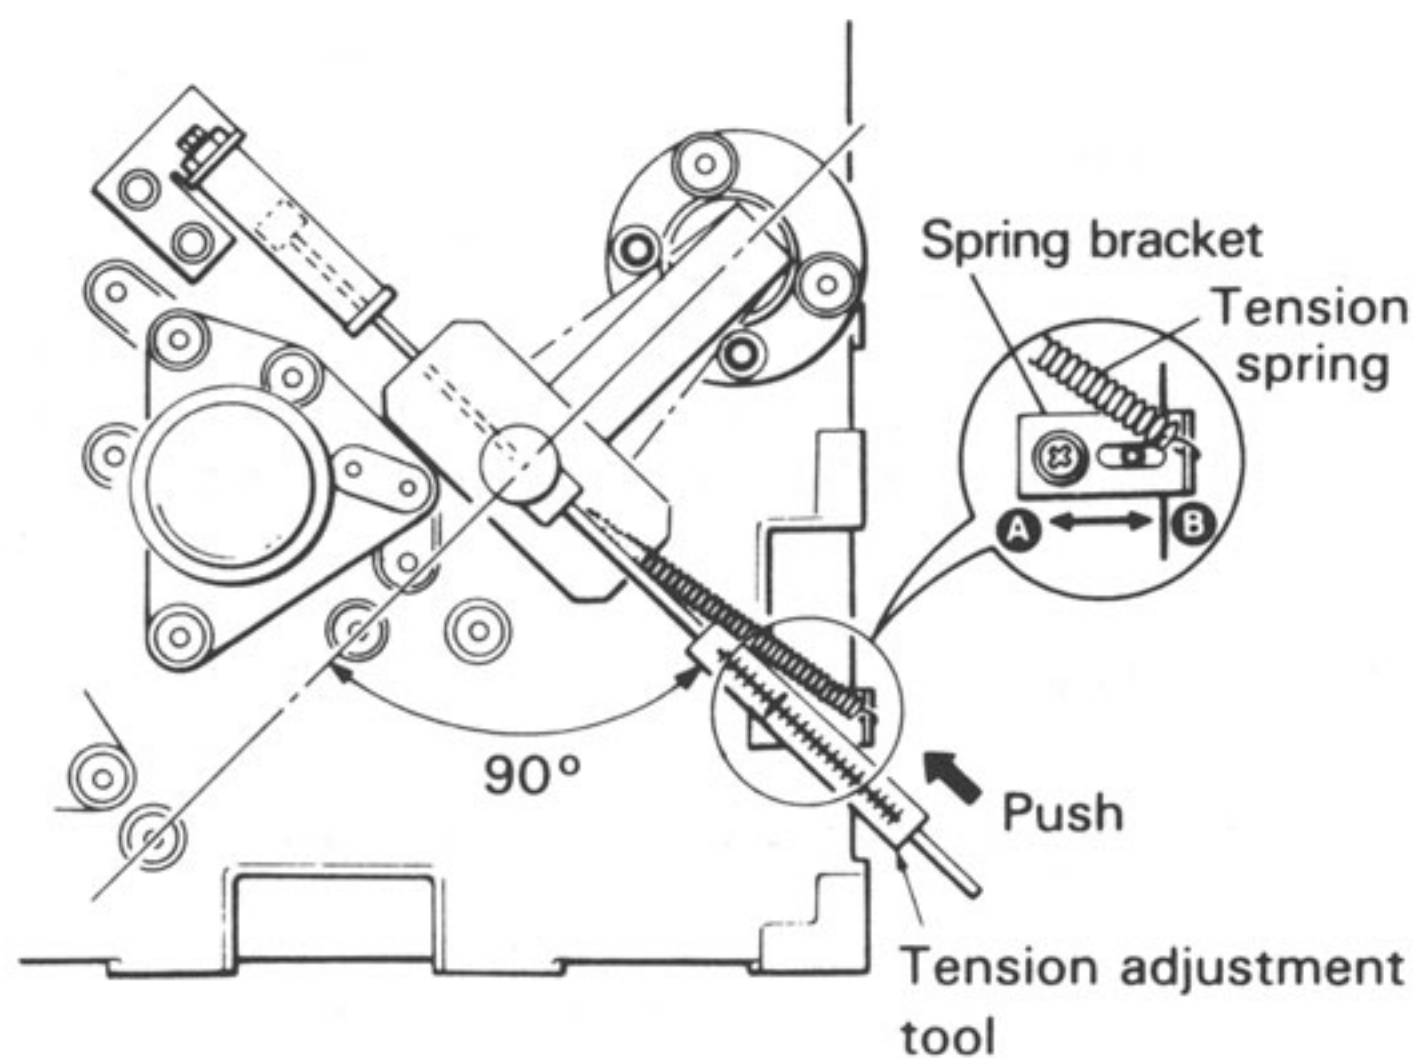

Figure 7-6. Take-Up Tension Arm Adjustment
- STEP 2.** Place the tension adjustment tool against the center of the take-up tension arm as shown in Figure 7-6 and push the tool in the direction of the arrow. Read the scale when the arm is at the center of the two stop shafts.